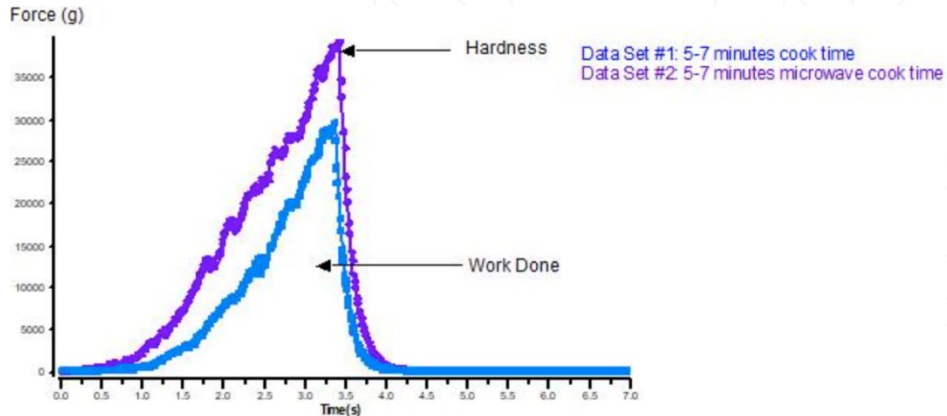

Figure 1
- Figure 1: Force vs. Time graph shows the hardness of peas after different cooking methods.